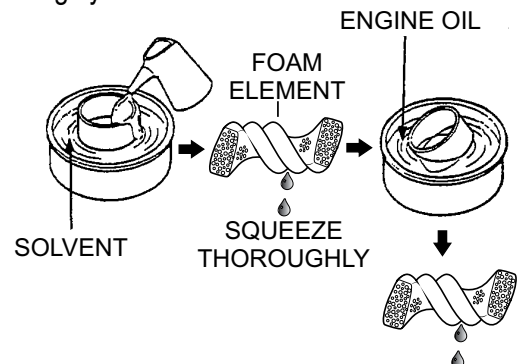

Figure 23. Foam Element
2. Clean the foam element (Figure 23) in warm, soapy water or non-flammable solvent. Rinse and dry thoroughly.
3. Dip the element in clean engine oil and completely squeeze out the excess oil from the element (Figure 23).